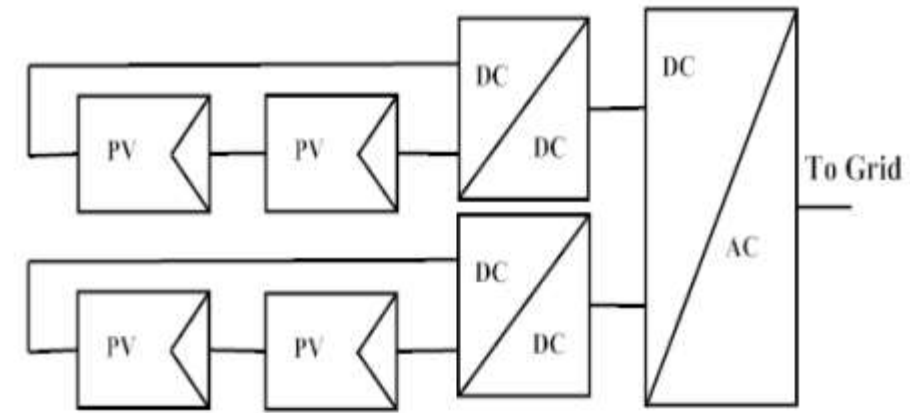

Fig. 9 Multi string inverter topology
- In this topology shown Fig. 9 every string can be controlled individually.